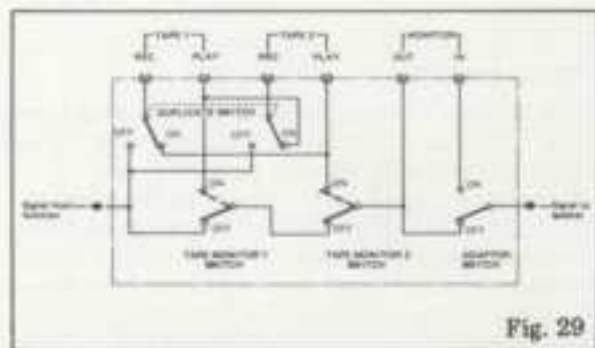

Fig. 29
1. As shown in Fig. 29, connect the tape decks to the receiver's TAPE 1 and TAPE 2 jacks.